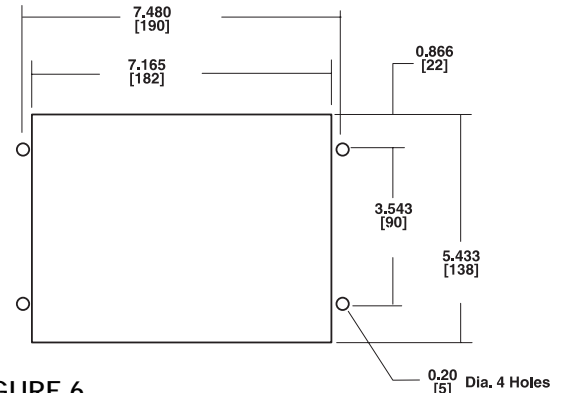

FIGURE 6
1. The TCD 050 is panel mountable. Refer to Figure 6 for panel cutout and mounting screw dimensions.